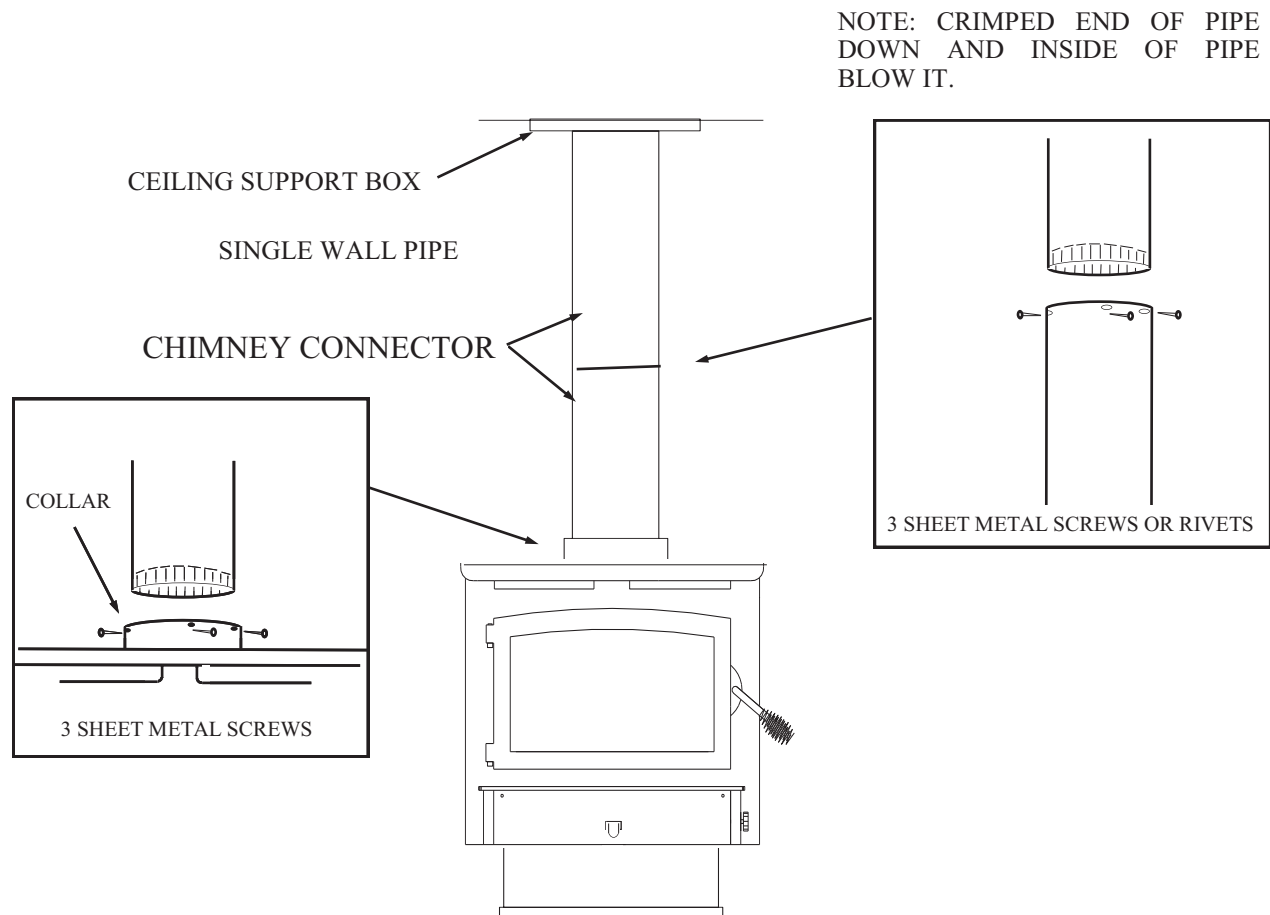

Figure 28
5. Using single wall chimney connector, connect heater to chimney by following manufacturer's installation instructions exactly. (See Figure 28).